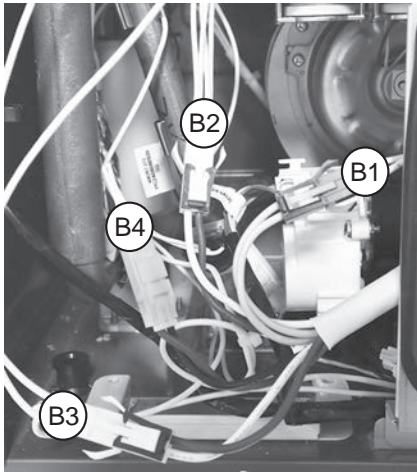

Figure 49 - Wiring harness "B1-B4" location
- 11 Locate the 4 wiring harnesses to the left of the UIM and disconnect them. See Figure 49.
- 12** Wiring harness connections B1 - B3 use a security clip. Reference Figure 49 for location.
- 14** Disconnect wiring harness B4. Reference Figure 49 for location.